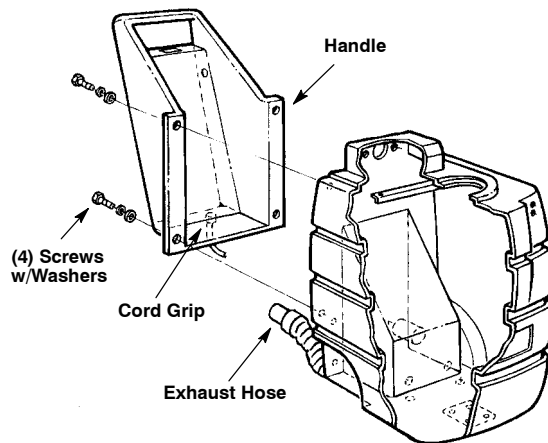

FIG. 1
1. Remove handle from ship position. Also remove upper handle mounting screws and washers from machine (Figure 1).